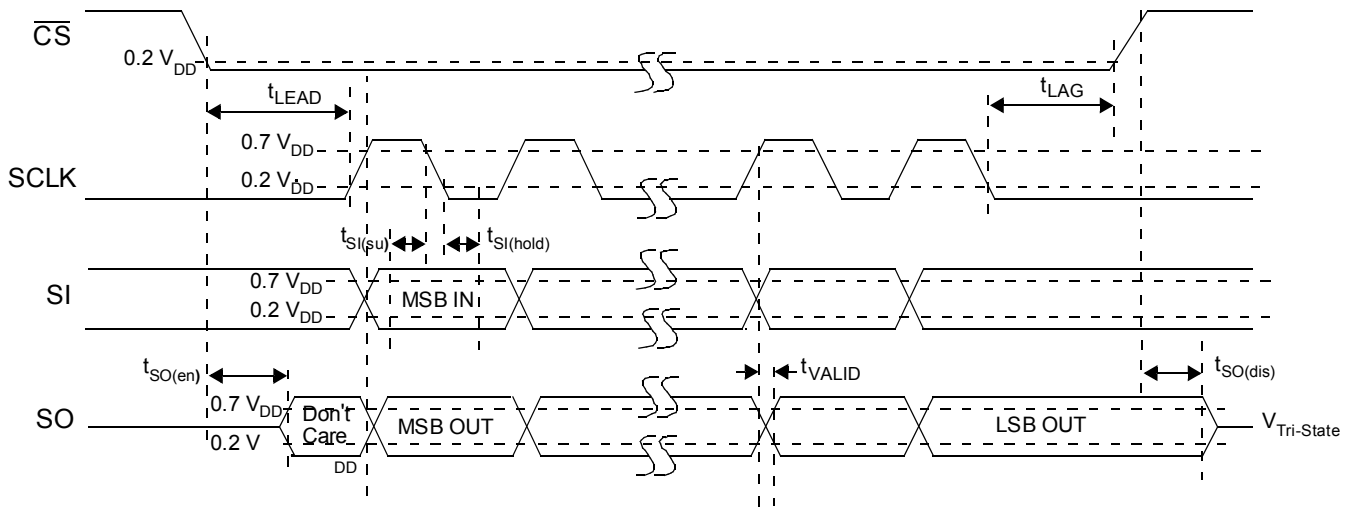

Figure 4. SPI Timing Characteristics
The Serial Input (SI) pin is used to enter one of seven serial instructions into the 33999. SI SPI bits are latched into the Input Shift register on each falling edge of SCLK. The Shift register is full after 24 bits of information are entered. The 33999 operates on the command word on the rising edge of $\overline{\text{CS}}$. To preserve data integrity, exercise care to not transition SI as the SCLK transitions from high-to-low state (see Figure 4, page 8).